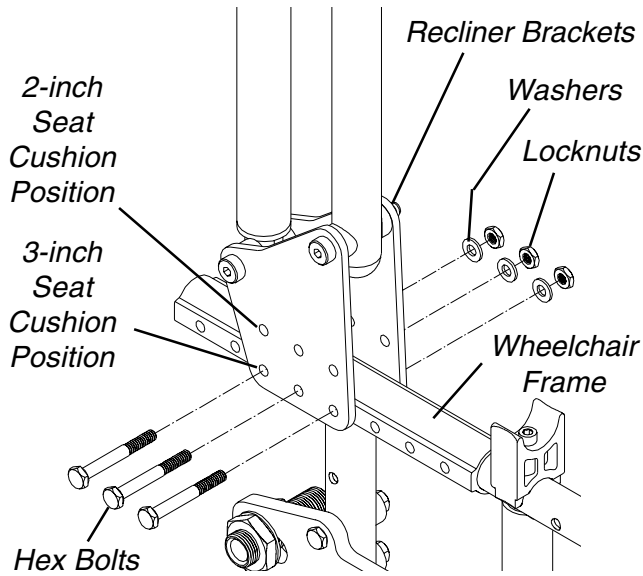

FIGURE 19 - REPOSITIONING BACK FOR 2 OR 3-INCH SEAT CUSHION - RECLINERS ONLY
REPOSITIONING BACK FOR 2 OR 3-INCH SEAT CUSHION - RECLINERS ONLY (FIGURE 19)
- Refer to **FIGURE 19** to determine the recliner bracket mounting position for the corresponding seat cushion height.
5. Reinstall the hex bolts, washers and locknuts through the recliner brackets and wheelchair frame and tighten securely. Refer to **FIGURE 19** for correct hardware orientation.